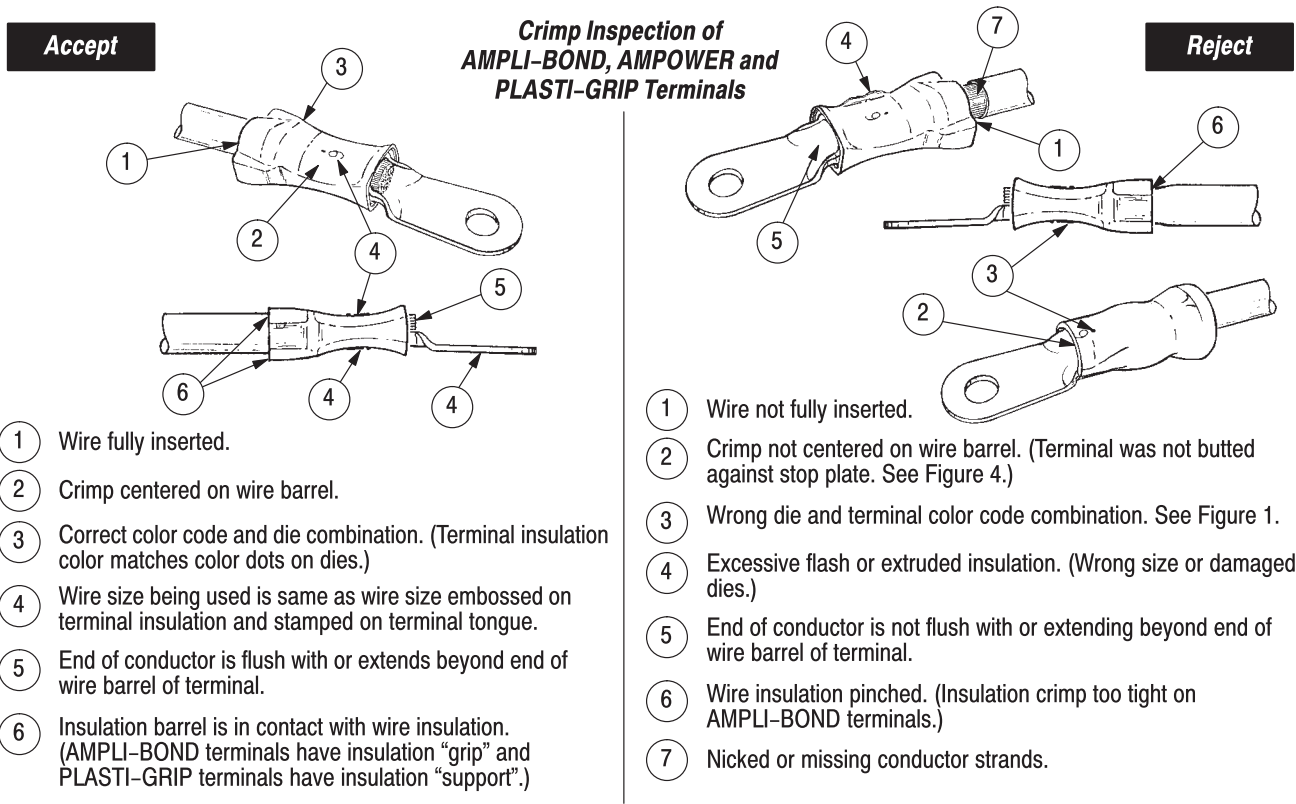

Figure 4
11. Refer to Paragraph 3.4 and Figure 4 for crimp inspection procedure.
Inspect crimped terminals by checking the features described in Figure 4.
*AMPLI-BOND terminals are shown in Figure 4. Inspection procedure is the same for AMPOWER and PLASTI-GRIP terminals.*